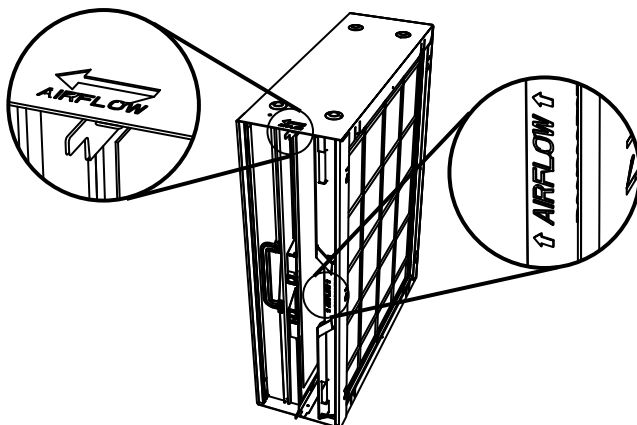

Figure 33
- Replace the PRE-FILTER into the air cleaner. Ensure that the "AIRFLOW indicator arrow" on the PREFILTER is pointing in the same direction as the "AIRFLOW indicator arrow" on the air cleaner cabinet as shown in Figure 33.